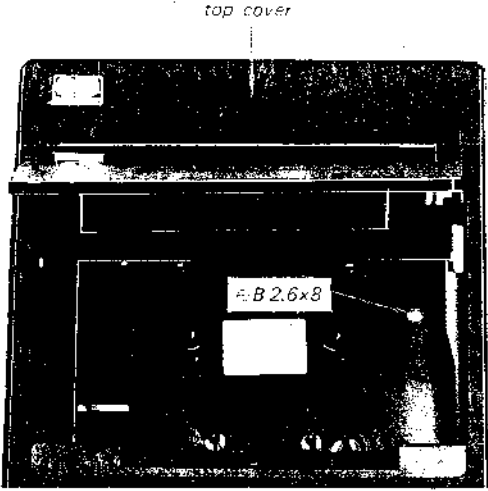

Fig. 2-5. Top cover removal
**Note:** When reconnecting them, refer to the wiring diagram (located inside the wooden case as shown in Fig. 2-5)
1. Remove the screw (#B 2.6x8) securing the top cover to the chassis as shown in Fig. 2-5.